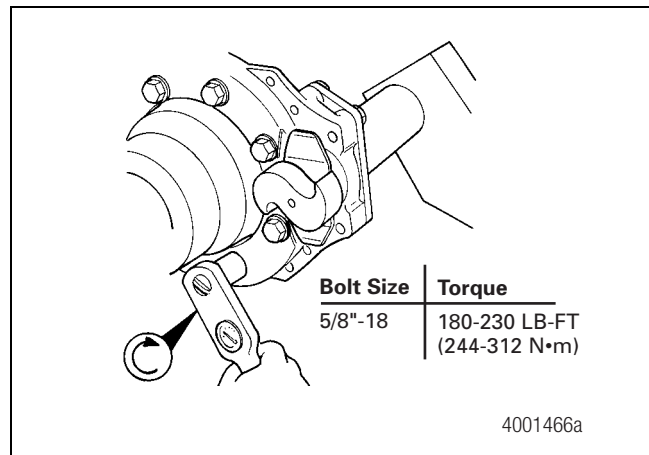

Figure 4.13
- Tighten all the spider bolts to the correct torque. Figure 4.13.